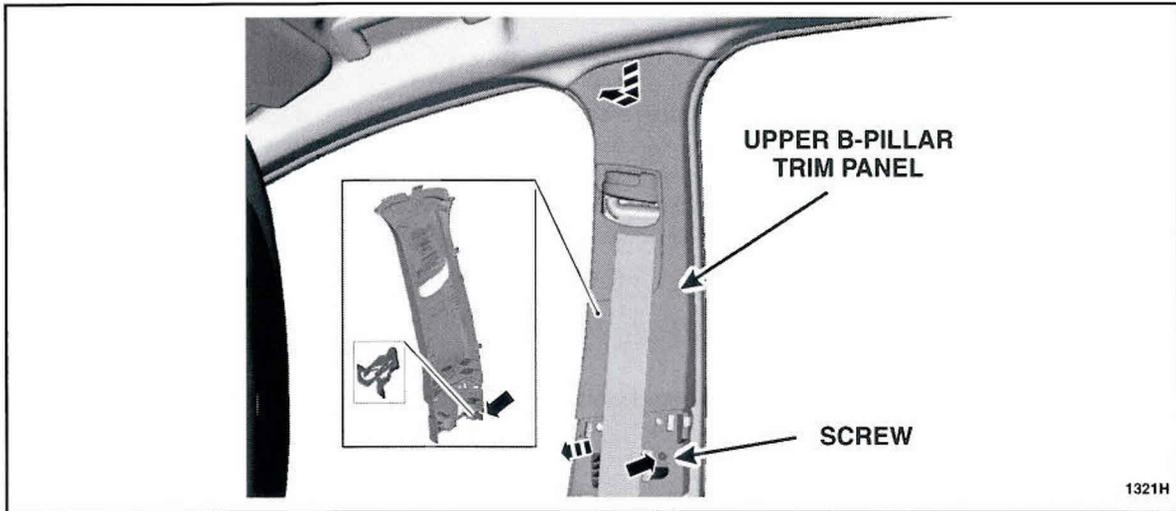

FIGURE 2
4. Remove the screw from the RH and LH upper B-pillar trim panels and remove both trim panels from the vehicle. See Figure 2.
32. Install the RH and LH upper B-pillar trim panels. See Figure 2.